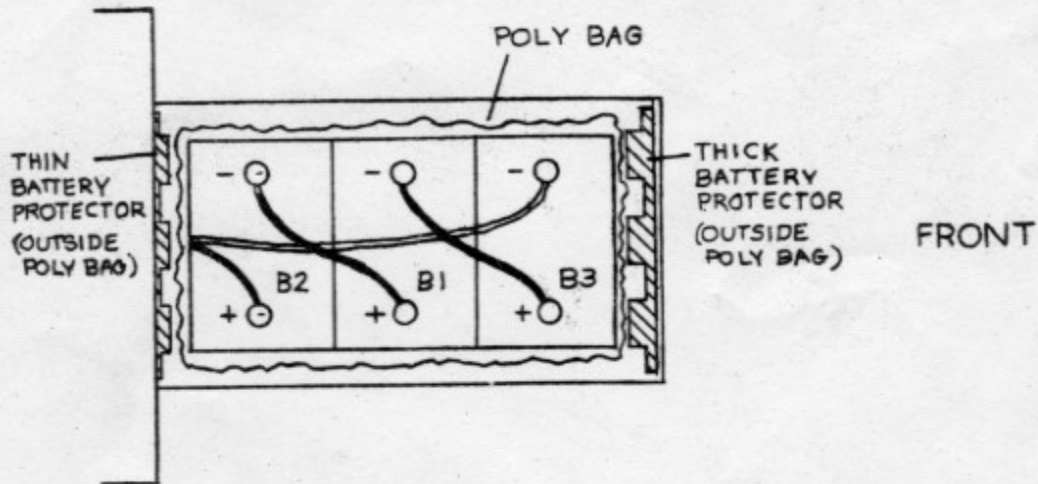

Figure 1
- d. Place the thin vacuum-formed battery protector between the poly bag and the rear wall of the compartment and the thick protector in similar fashion at the front of the compartment. Position the protectors so their corrugations face the battery walls. (See Figure 1.)
- e. Carefully set the batteries inside the bag as shown in Figure 1 observing polarity markings. Make sure the sides of the bag remain above the top surface of the batteries in equal amounts.
- f. Connect the battery cables in accordance with Figure 1. Observe clamp polarity markings. Coat the terminals after connections are made with a thin film of Battery Terminal Protective Grease, AP31. Make sure all surfaces are coated.